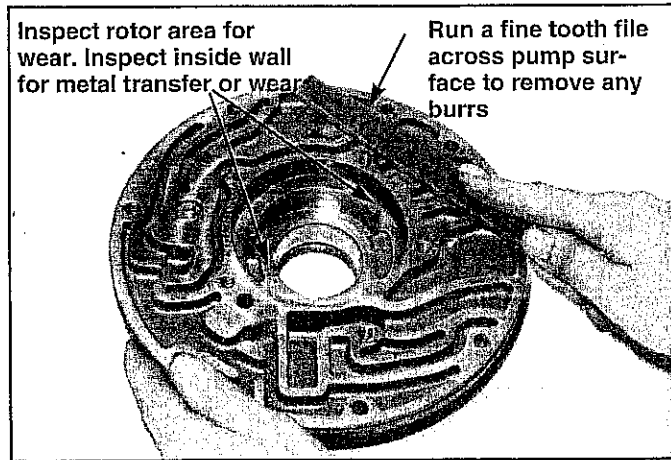

FIGURE 33
STEP 2. Use a large flat fine-tooth file to remove any high spots on the face of the body and cover. (See Fig. 33 and 34) Clean the pump halves in solvent to remove any metal particles. Lay the mating surface of the pump body on the upright cover and run a 0.003 inch feeler gage around the edge. (See Fig. 36) The gage should not find any gaps greater than 0.003 inch. If the mating surfaces vary excessively check for burrs, nicks or high spots which may be causing the problem. Excessive warpage indicates the pump will have to be replaced.